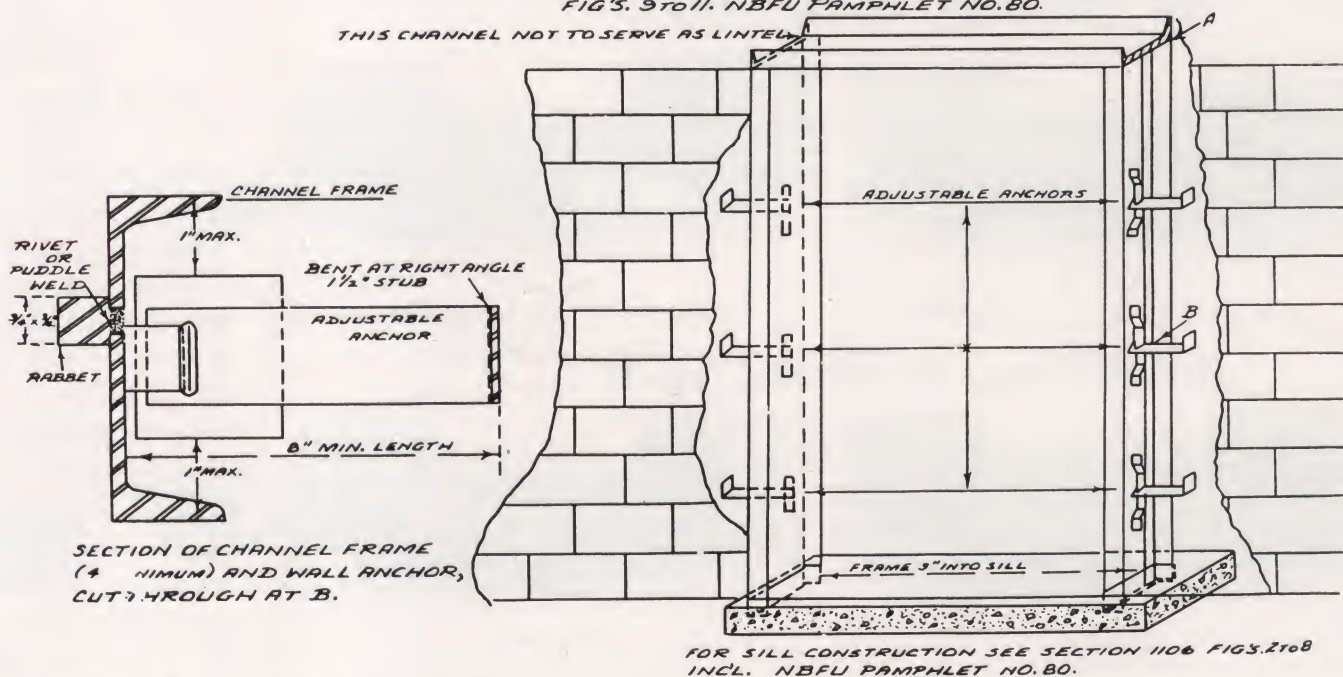

Figure 5
SWINGING DOORS, FIGURE 5
The wall frame shown in Figure 5 for swing doors (either single or in pairs) should be constructed in accordance with Section 1108 (B) NBFU Pamphlet No. 80.